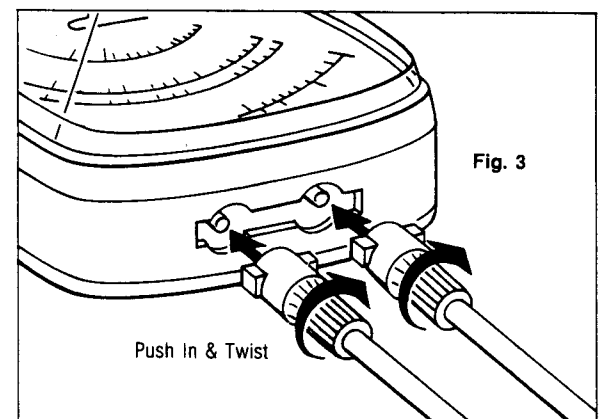

Fig. 3
1. Insert both red and black voltage leads into voltage receptacles at bottom of instrument. See Fig. 3.
1. Insert bayonet type voltage test leads into voltage receptacles at bottom of instrument. Push against receptacle spring and twist to lock in place. See Fig. 3.